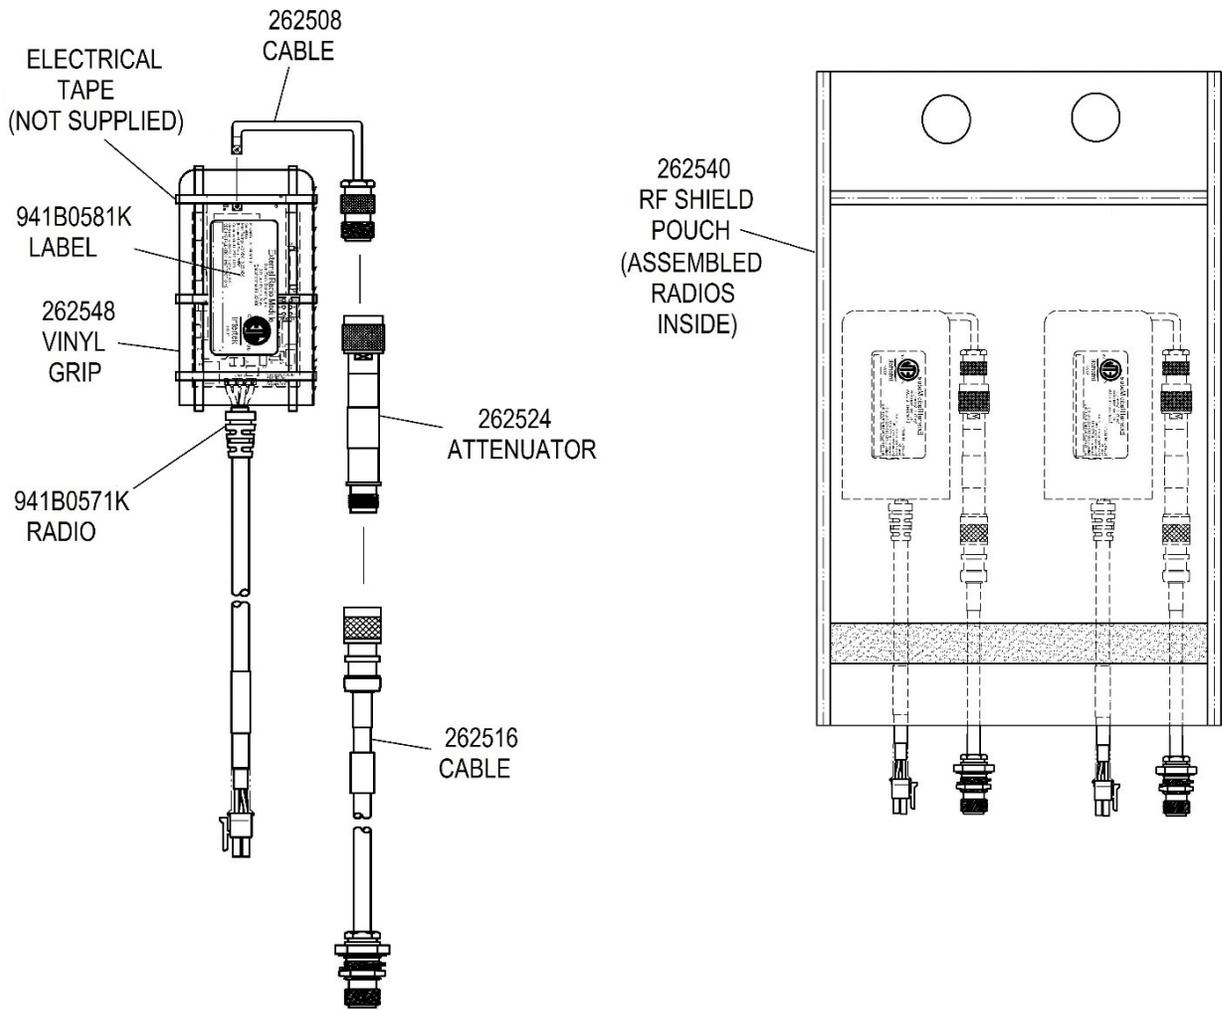

Figure 1. Controlling AMU Components (Partial Showing)
12. Refer back to the drawing in Figure 1. Insert the radio(s) into the RF pouch as shown. The RIB connector and antenna cable connector should be protruding from the RF pouch. There should be enough RIB connector cable to reach to the RIB.